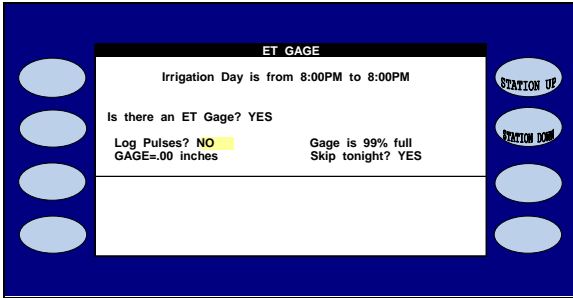

Figure 6
-  Press the blue **ARROW** keys to move the cursor to the **LOG PULSES?** (Figure 6).